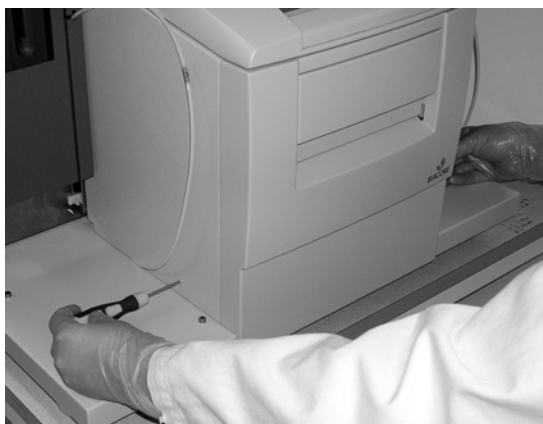

Figure B-10. *Opening the sample compartment box.*
6. Use two 2.5 mm screwdrivers to press the two catches inside the sample compartment box (see Figure B-10). Pull the box out of the instrument.